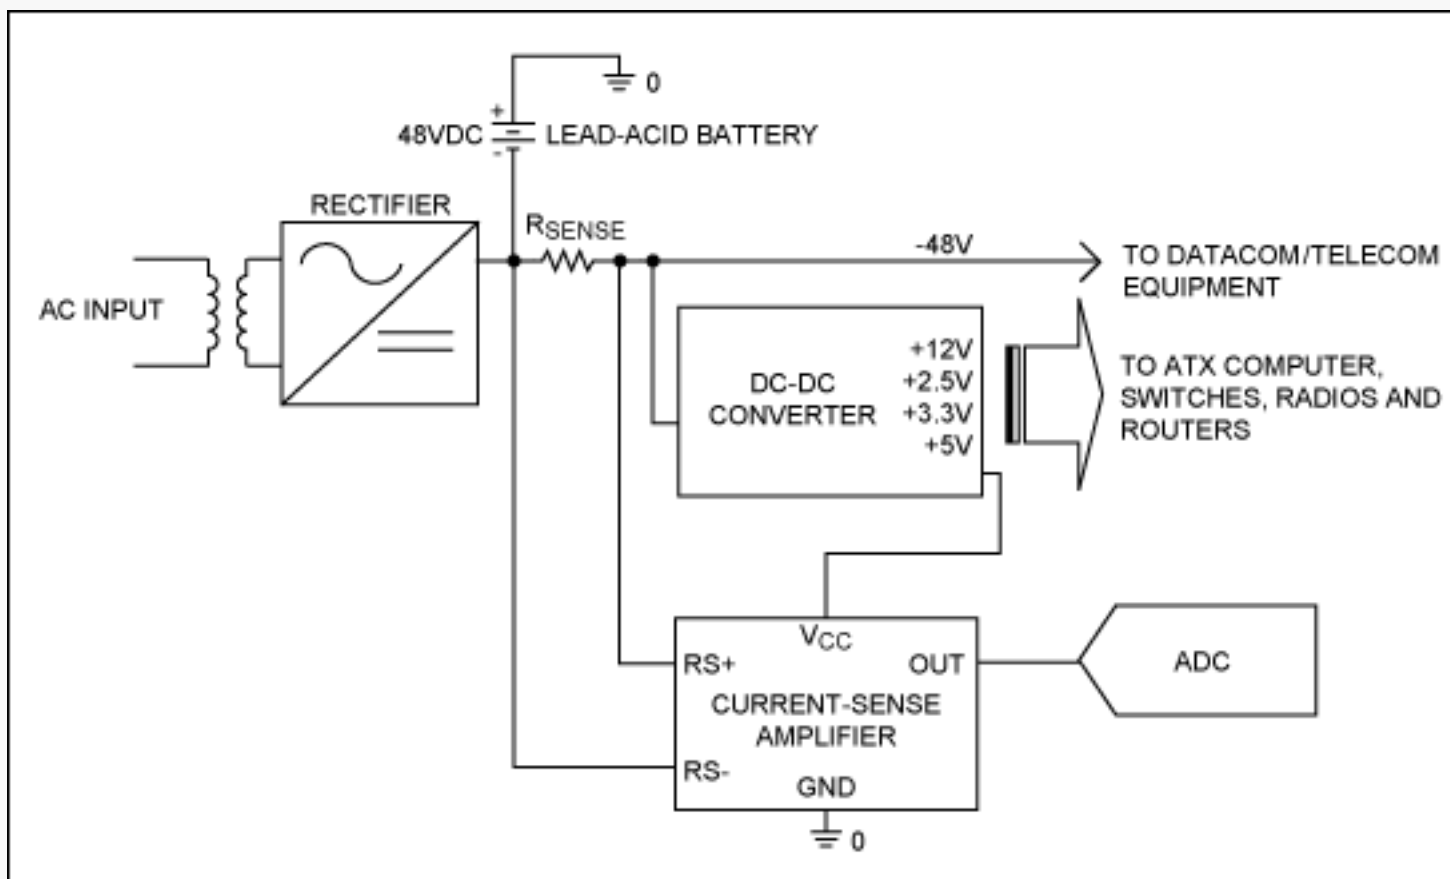

Figure 1. Block diagram of a telephone central-exchange, power-supply system.
**Figure 1** shows a block diagram of the power-distribution network in a typical telephone exchange. A rectifier converts the AC at the power mains to DC, and the DC output from the rectifier is used to charge a 48V lead-acid battery. The battery powers the user telephones through the telephone line. The battery polarities are connected so that the line voltage is negative (-48V). A negative line voltage helps to reduce the corrosion from electrochemical reactions occurring on a wet telephone line. A telecom network also uses several DC-DC converters to derive intermediate power-supply rails from the -48V DC input. The intermediate power supply rails power the switches, radios, routers, ATX computers, and other electronic equipment in the telephone exchange. A current-sense amplifier oversees the system health by monitoring the -48V power-supply current.